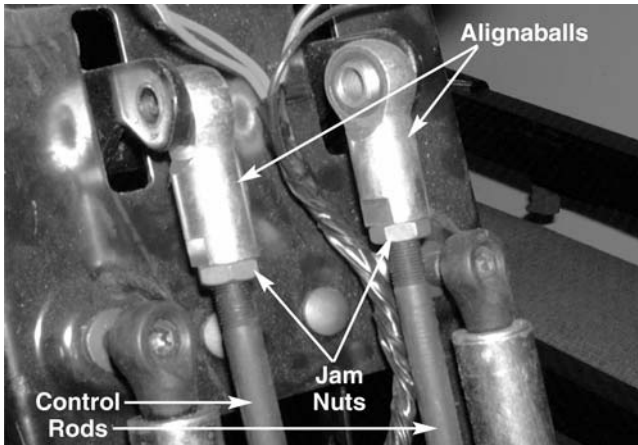

Figure 10-14.
22. With the damper cylinders secured, loosen all four hex jam nuts that maintain the alignaball positions on the control rod assemblies using a 9/16 wrench. See Figure 10-14.